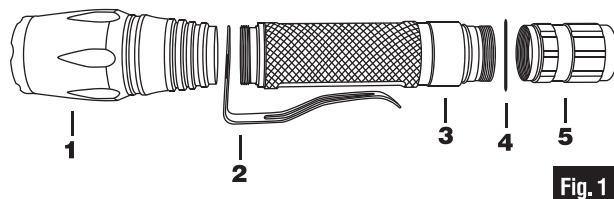

Fig. 1
- 1 Remove the Tailcap** by turning counter clockwise (Fig. 1, #5).
- 2 Insert (2) 18650 Batteries into flashlight** (with "+" end first) and reattach the Tailcap.